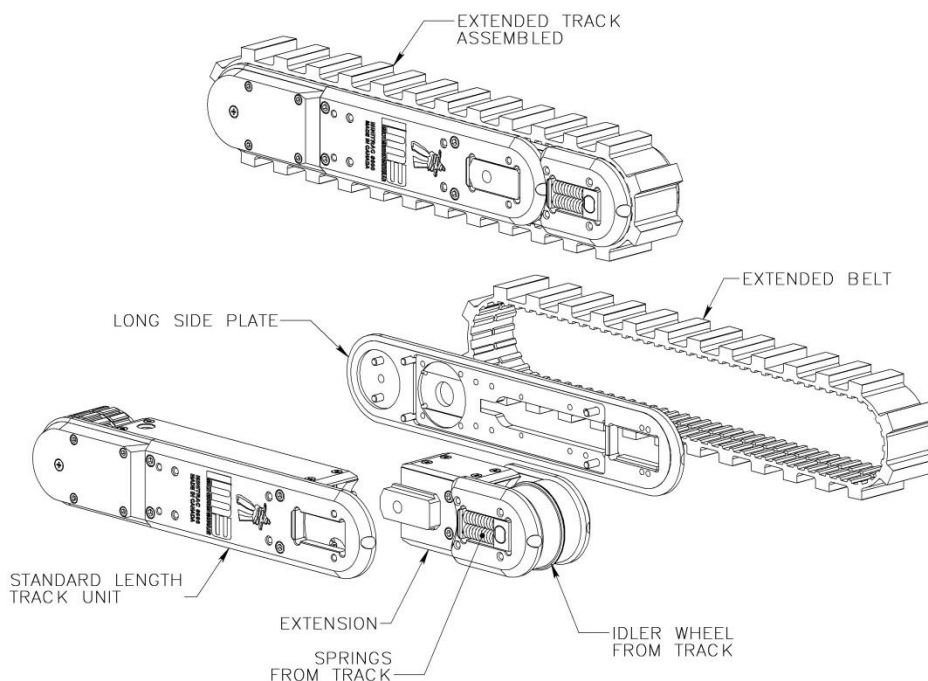

FIGURE 10: TRACK EXTENSION BLOCK
3. Install the springs and idler wheel into the extension block. See Figure 10 below.